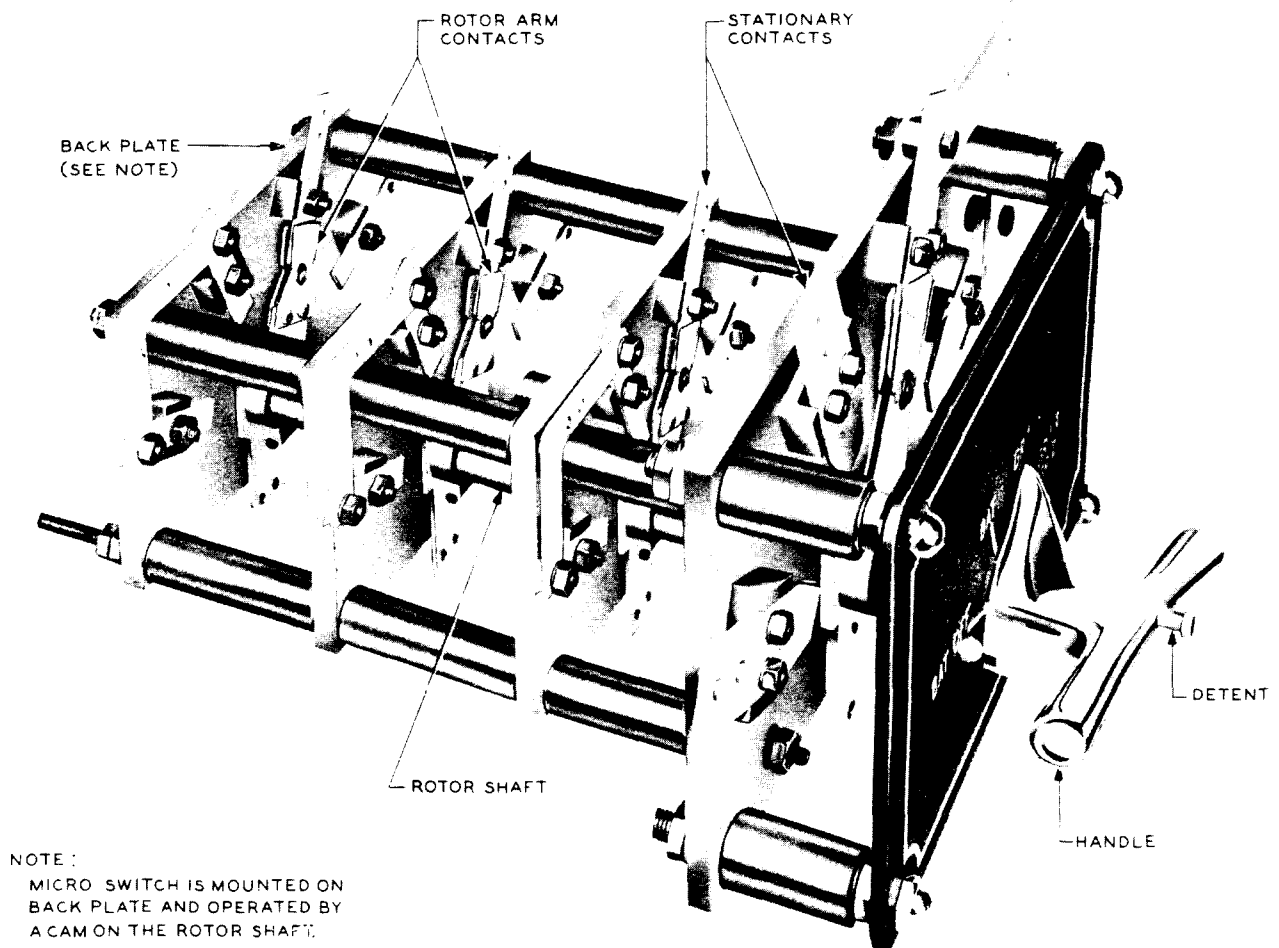

Fig. 10—KS-15820 Switch
- (1) If the detent (Fig. 10) does not permit the rotor to meet the requirement, it should be replaced.